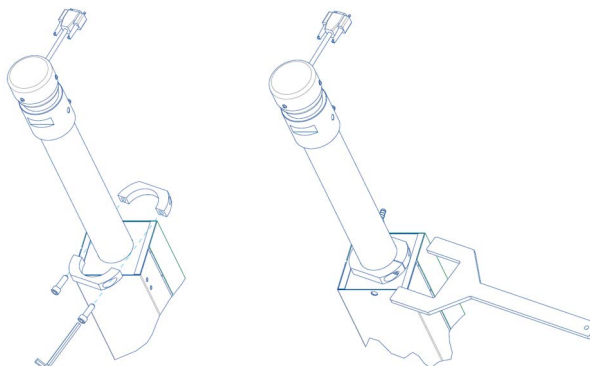

Figure 2-9 Secure screws with the 1/4" hex wrench
14. Position the cylinder holder clamps about 1/8" (3 mm) to 1/4" (6 mm) above the cylinder mount as shown in Figure 2-9.
17. Using the proper size wrench (supplied with the Wrench Kit), unscrew the cylinder from the cylinder mount several revolutions as shown in Figure 2-9.